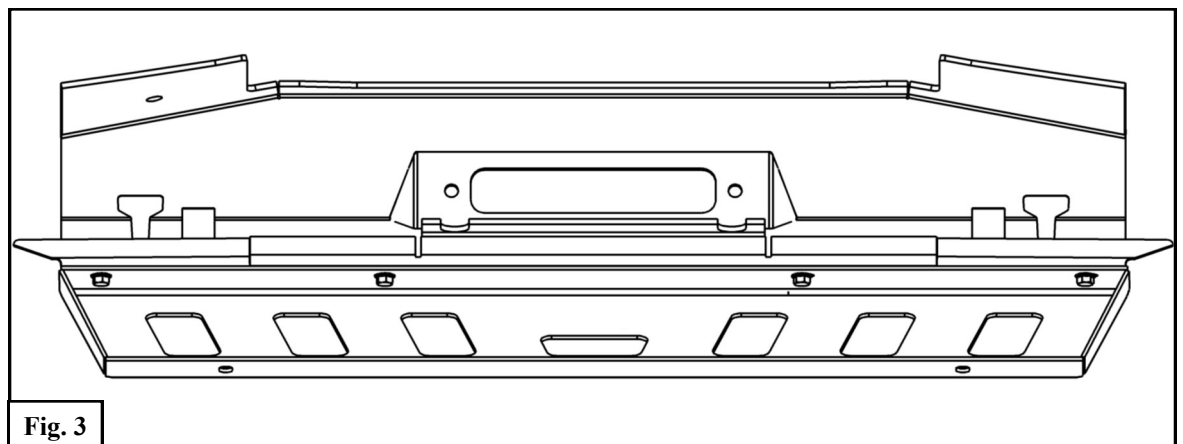

**Fig 1**
2. Obtain the Skid Plate Mounting Brackets (2) along with the supplied M8 Hardware (3-12).
3. Secure the Skid Plate Mounting Brackets (2) to the Skid Plate Assembly (1) as shown in **Figure 1**.